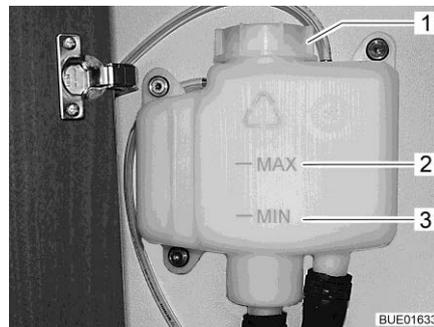

Fig. 186 Compensator reservoir without panel
- Check if the fluid level is between the marks "MIN" (Fig. 186,3) and "MAX" (Fig. 186,2) on the compensator reservoir (Fig. 186).
- Open the rotary lid (Fig. 186,1) on the compensator reservoir.